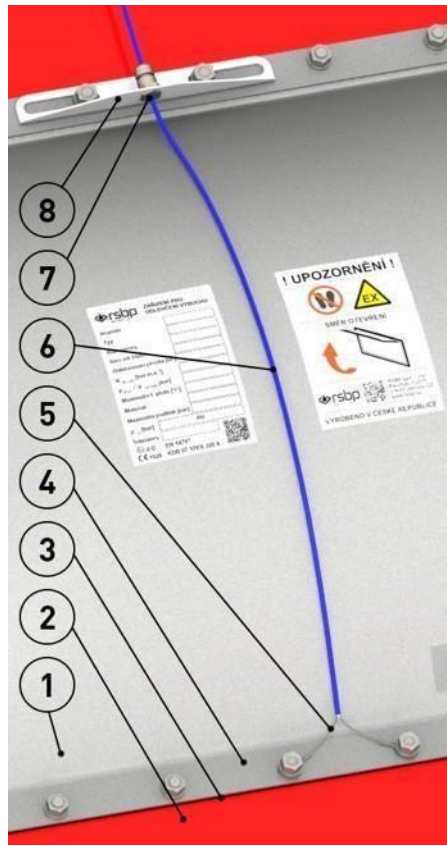

Fig. 25 - Installing the opening indicator – type G3
1. The cable with stainless steel line (pos. 5) is attached to the frame or holder with two screws (fig. 25).